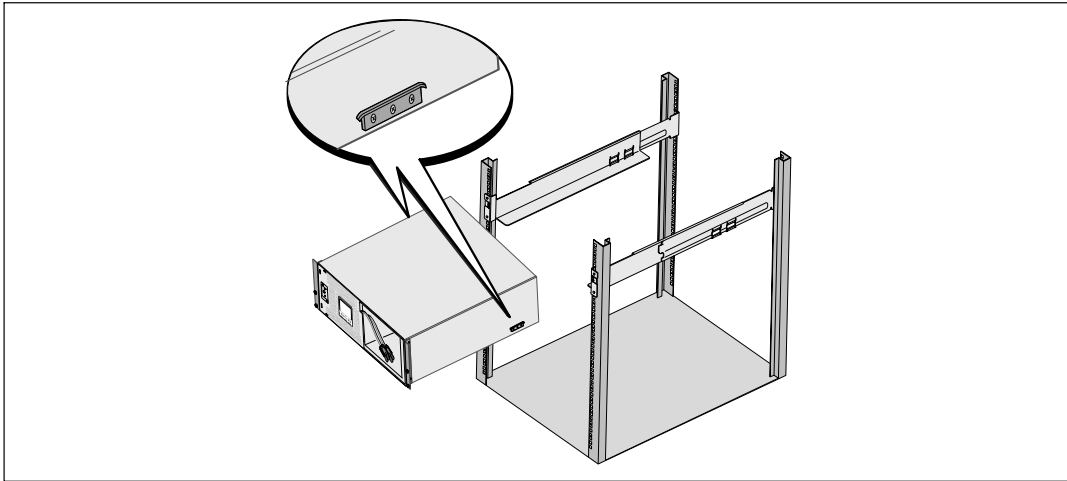

Figure 10. Installing the Cabinet
- 6 Slide the cabinet into the rack (see Figure 10). Repeat Steps 3 through 5 for any additional cabinets.